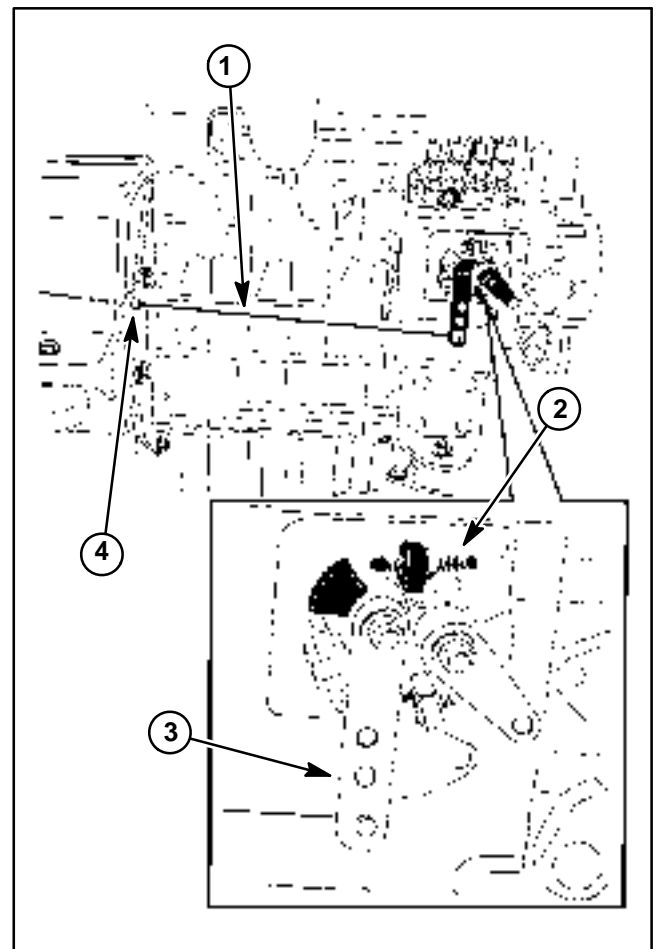

Figure 1
2. Check position of speed control lever on engine fuel injection pump. Speed control lever should be contacting high speed screw when throttle control lever is in **FAST** (detent) position (Fig. 1).
3. If necessary, position of throttle control cable jam nuts can be adjusted until speed control lever contacts high speed screw when throttle control lever is at **FAST** (detent) position (Fig. 1).